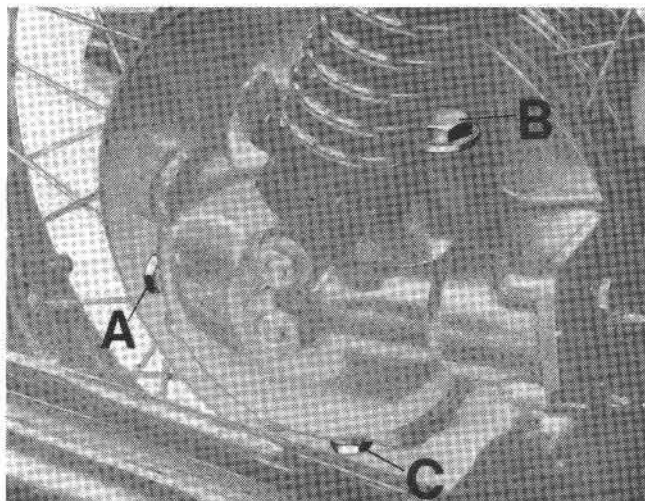

Fig. 84
First drain oil from drive box by removing drain plug and gasket (see C on Fig. 84) located at bottom of same and then proceed to strip as follows:
- remove from drive box filler plug (B) and level plug (A) c/w gaskets (see Fig. 84).
- replace oil drain plug (see C on Fig. 84).